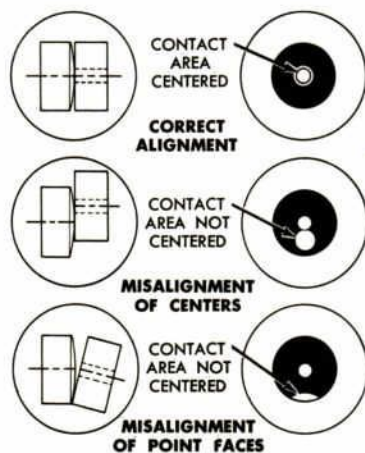

Figure 8—Breaker Point Alignment
**Breaker Points**—The unique Ford vent-hole distributor points are used on all models. The “hole in the middle” design lets air through the contacts for cooler operation and retards deposit formation. However, to take full advantage of the vented-type design, the points must be accurately aligned. Any misalignment will cause premature wear, overheating and pitting. Turn the cam so the breaker points are closed and compare with Figures 8 & 9.